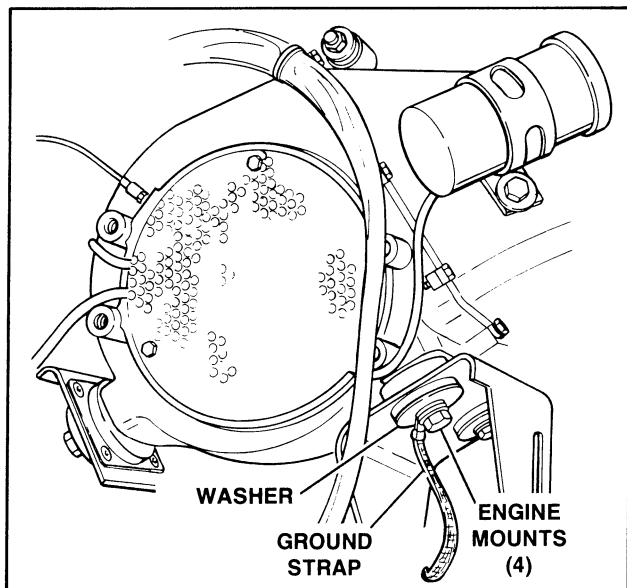

Figure 51 - Engine Mounts
- h. See Figure 51. Disconnect the stabilizer from the engine. Remove the engine mounting hardware. Remove the engine from the frame.
Inspection and Repair of Motor Mounts (Figure 51)
- a. See Figure 51. Place the engine in the frame. Secure the engine to the mounts using the original hardware. Secure engine ground strap to left front motor mount bolt. Tighten the bolts and nuts to 30-35 ft.-lbs. (4.1-4.8 kgm) torque.